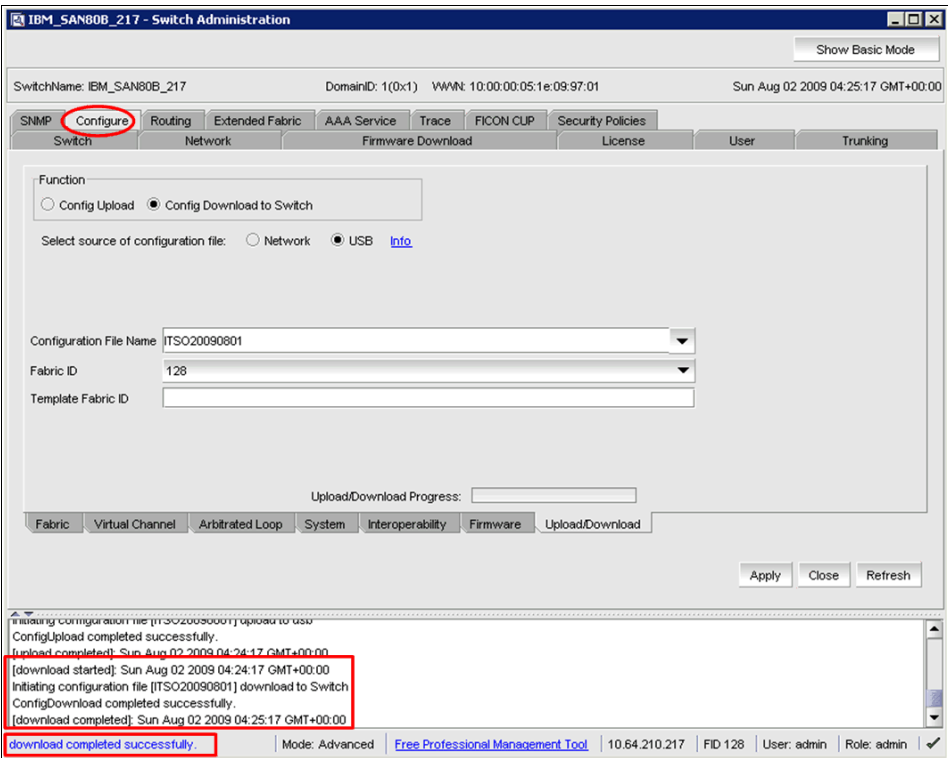

Figure 12-63 Config Download completed successfully
6. When the configuration download completes successfully, a message displays as shown in Figure 12-63. Click the **Switch** tab.